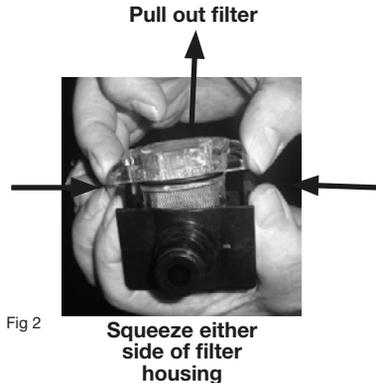

Fig 2
- This is a good time to de-assemble and clean the pump filter. Squeeze either side of the filter housing to release the retaining tabs and pull the filter cassette out of the housing. See Fig 2